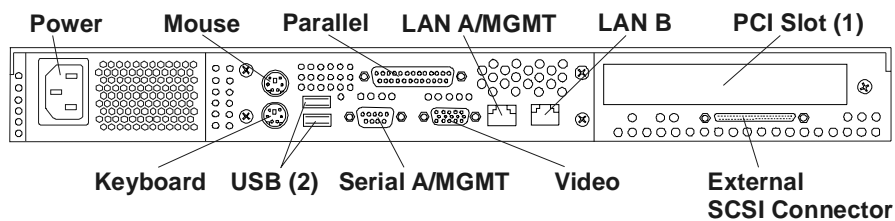

Figure 9-1. Rear Panel Ports
1. Connect the monitor, keyboard, and mouse to the HP Netserver LP 1000r using the connections provided on the rear of the chassis. See Figure 9-1.
2. Connect the power cord to the rear of the Netserver. See Figure 9-1.